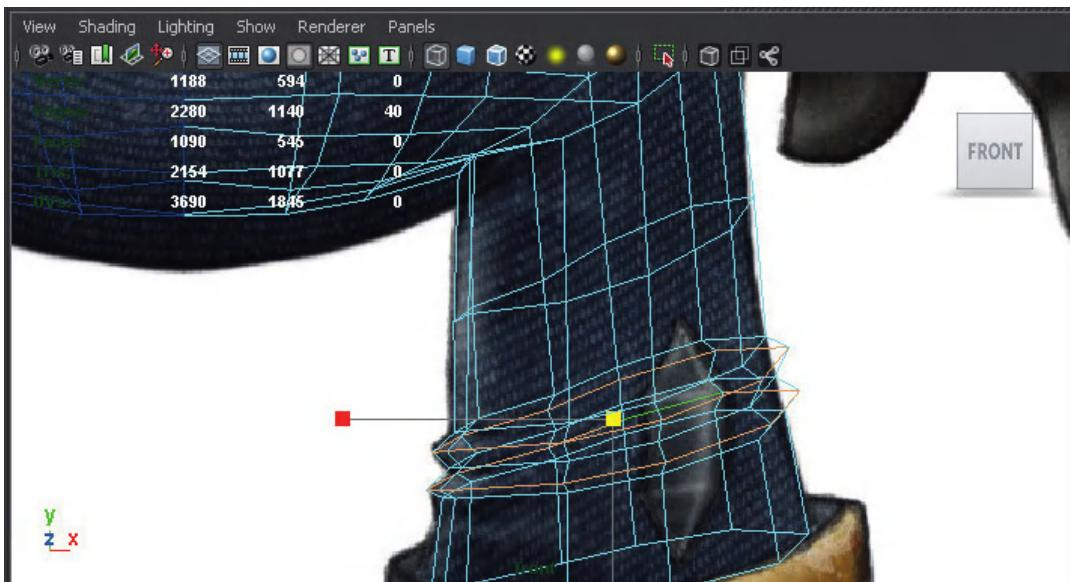

FIG 4.67 Inserting edge loops and then adjusting those loops to refine the leg.
Step 85: Add geometry and sculpt to create leg detail. This is done by using the Insert Edge Loop to place new loops of edges where there are changes in the shape of the leg. Then these new edges are scaled to create the folds of the pants or other modifications across the shape of that leg (Fig. 4.67).